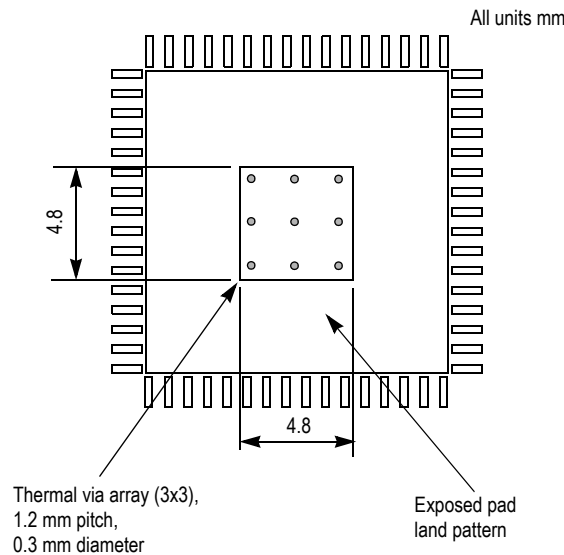

Figure 7. Recommended Thermal Land Pattern
The MC100ES6222 uses a thermally enhanced exposed pad (EP) 52 lead LQFP package. The package is molded so the lead frame is exposed at the surface of the package bottom side. The exposed metal pad will provide the low thermal impedance supporting the power consumption of the MC100ES6222 high-speed bipolar integrated circuit and eases the power management task for the system design. A thermal land pattern on the printed circuit board and thermal vias are recommended in order to take advantage of the enhanced thermal capabilities of the MC100ES6222. Direct soldering of the exposed pad to the thermal land will provide an efficient thermal path. In multilayer board designs, thermal vias thermally connect the exposed pad to internal copper planes. Number of vias, spacing, via diameters and land pattern design depend on the application and the amount of heat to be removed from the package. A nine thermal via array, arranged in a 3 x 3 array and using a 1.2 mm pitch in the center of the thermal land is a requirement for MC100ES6222 applications on multi-layer boards. The recommended thermal land design comprises a 3 x 3 thermal via array as illustrated in Figure 7. Recommended Thermal Land Pattern, providing an efficient heat removal path.